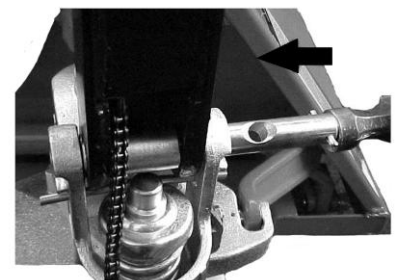

Fig. 6: Axle assembling
- a) Insert the tiller arm(1) into the pump piston, then use a hammer to insert the axle with hole into the hydraulic pump and tiller arm (fig.6).